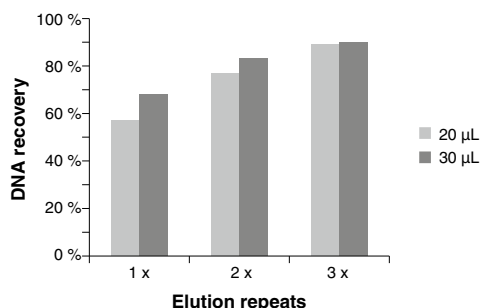

Figure 4 Multiple elution steps increase recovery
- **Do 2 or better 3 elution steps with 20 or 30 µL fresh elution buffer.** Figure 4 demonstrates the increase in recovery for a 5 kbp fragment by 20–30 %.